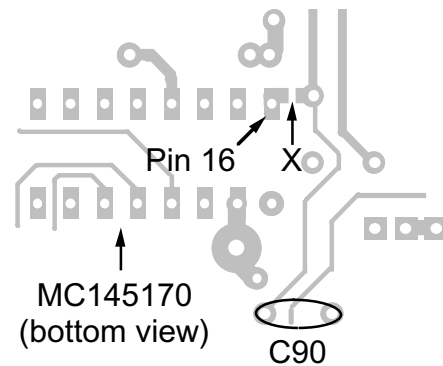
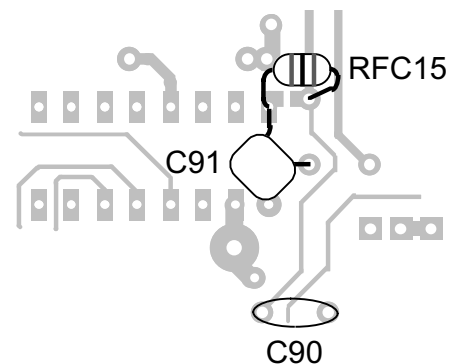

Figure 2
Figure 3
- Add an RF choke in series with U4 pin 16. First locate point "X" in Figure 2. Cut the indicated small trace segment between pin 16 of U4 and capacitor C89 (on the top side). Next, solder a miniature 100- $\mu$ H RF choke (RFC15) across the cut as shown in Figure 3. Finally, solder a .001- $\mu$ F capacitor (C91) from pin 16 to ground.